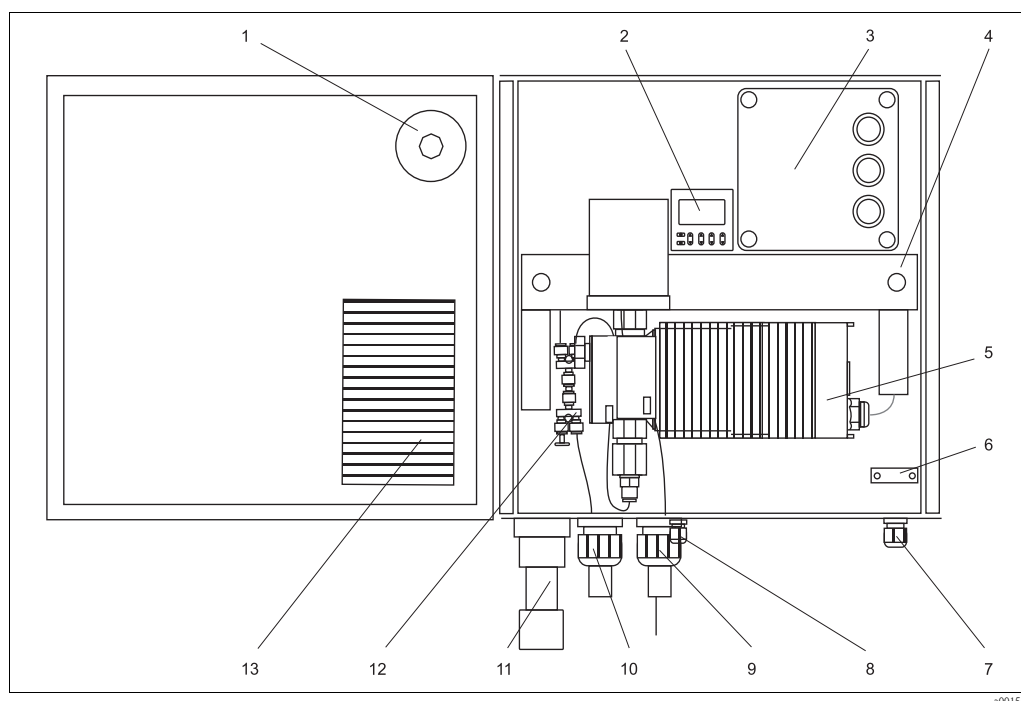

Fig. 20: Control box
The vent hose for ventilating the pump is already connected at the factory. The bottom part of the hose projects slightly out of the gland (→ Fig. 20, item 8).